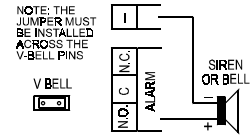

Figure 3.7 Connecting a Siren
The ALARM relay has changeover (Form 1C) dry contacts rated at 5A/24 Volts, and can be used to activate alarm devices such as sirens or bells (Fig. 3.7). A jumper marked V-BELL connects the 12 VDC supply to the common (C) contact of the alarm relay, via a 3A fuse marked BELL. With the jumper installed across the two
ALARM	The N.O. , C and N. C. terminals represent the corresponding output relay contacts. You may wire the alarm relay contacts to switch on an external siren by supplying +12 VDC to the siren as shown in Fig. 3.7. Note: If the V-BELL jumper is installed across the two V-BELL pins, +12VDC is applied to the output relay C contact. The N.C. contact will also be at +12VDC potential, but will become "floating" when an alarm occurs. If you wish to use the output relay as a "floating" dry contact switch, be sure to remove the V-BELL jumper!